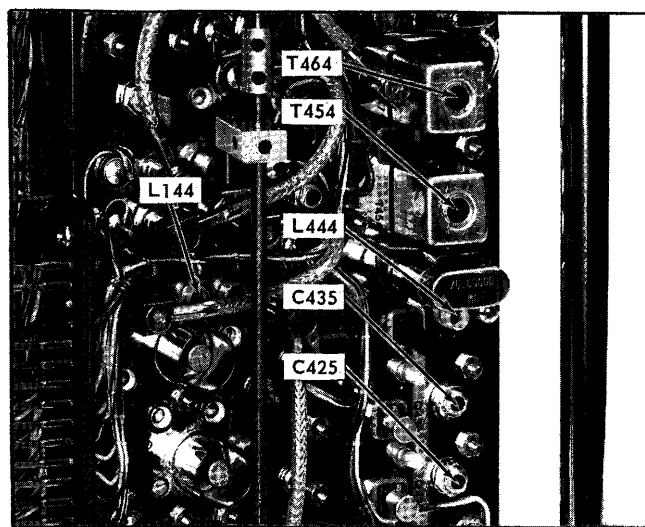

Fig. 6-16. Location of IF Amplifier adjustments (Step 9).
- e. Peak up C425, C435, T454, T464 and L444 (see Fig. 6-16) for maximum signal amplitude. (Make sure L444 is set to give